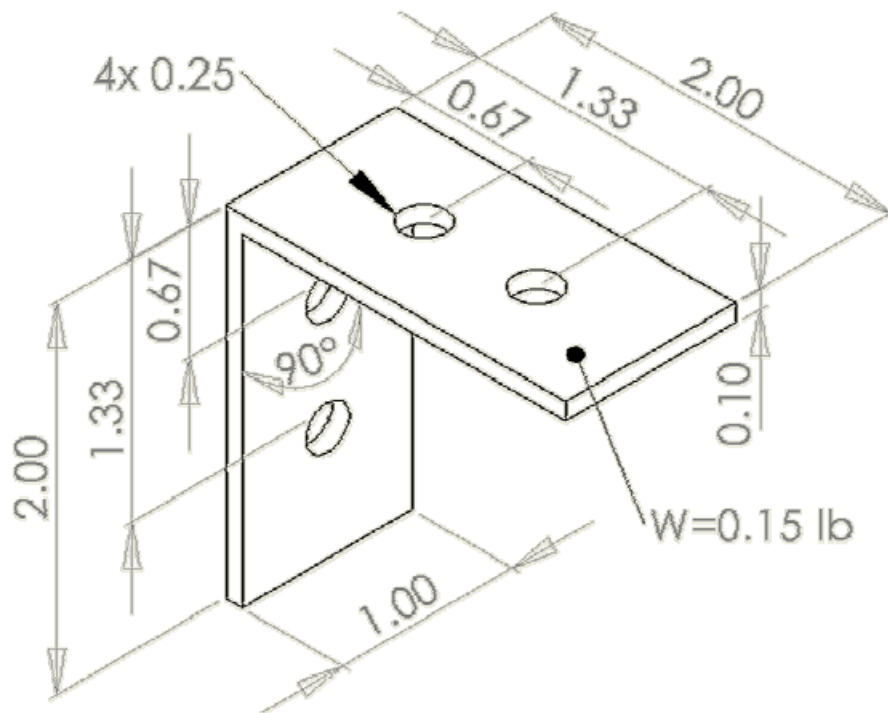

Figure 1. Sheet metal bracket
**Problem 3.** Consider the manufacture of the bracket shown in Figure 1 from sheet steel (available in 4 in. wide strips) using a manual brake press or presses. Assume UTS = 70,710 psi.